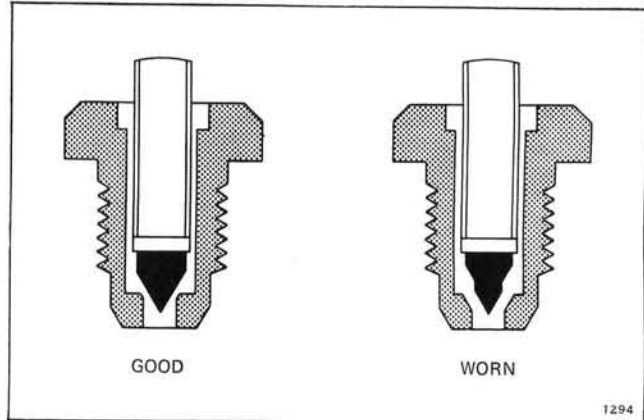

Figure 3-16. Inlet Needle Valve Seat Wear
c. Check the needle valve seat with a magnifying glass; if seat is nicked, scratched, or worn out-of-round, it will not give satisfactory service. See Figure 3-16. The valve seat and needle are a matched set; if either is worn, both parts must be replaced. Use a new gasket when installing the needle seat.